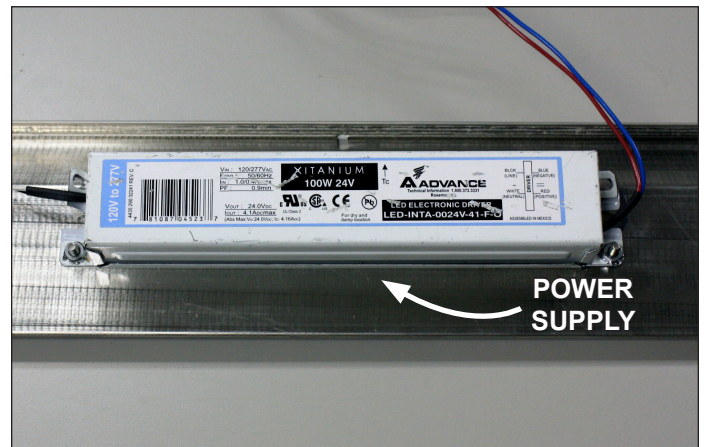

Fig. 15 Clear view of the power supply on the back side of the light reflector
3. Disengage the front edge of the light reflector by lifting it free of the front channel hinge, then carefully remove. Ballasts/power supplies will now be visible on the back-side of the reflector (Fig. 15).